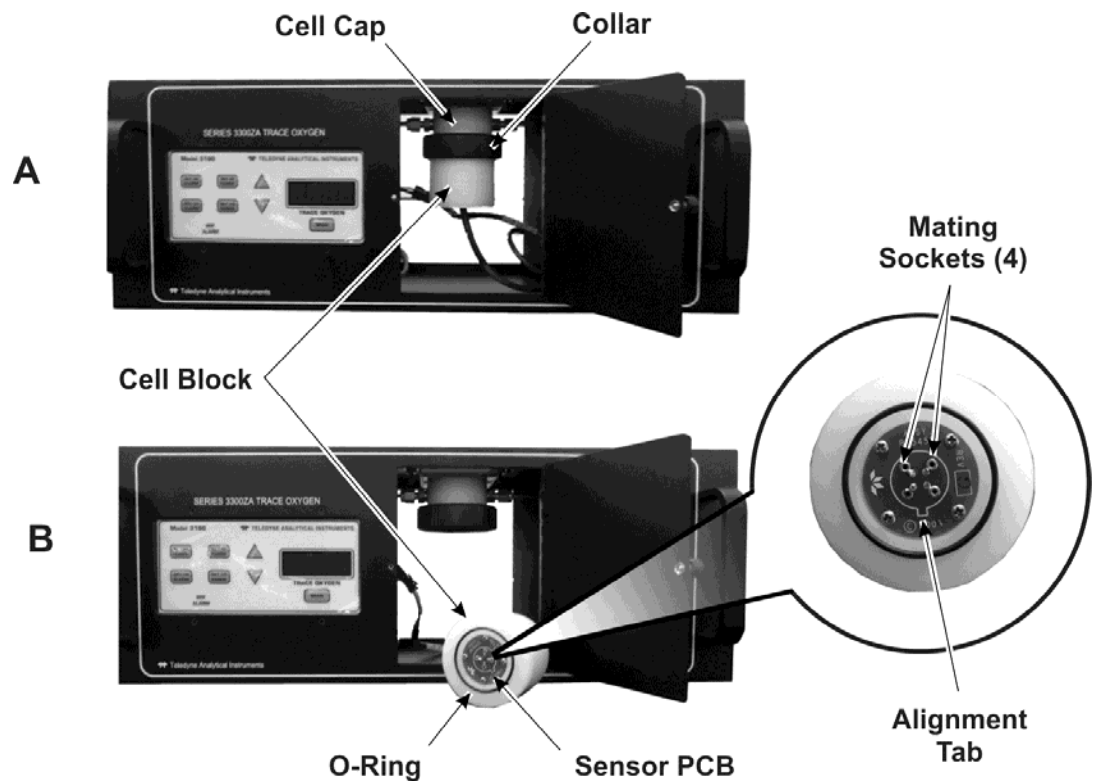

Figure 5-3 (A&B): Cell Removal/Installation
3. Unscrew the collar to separate the sensor cap from the sensor block. See Figure 5-3 (A).
4. Carefully lift up the ZrO2 sensor off the PCB and replace with a new sensor. Align the tab of the sensor with the tab shown on the silkscreen of the sensor PCB as shown in the inset of Figure 5-3 (B). Make sure the pins on the sensor mate properly with the sockets on the PCB. Without touching the membrane surface, push the sensor down until the pins seat in the sockets.